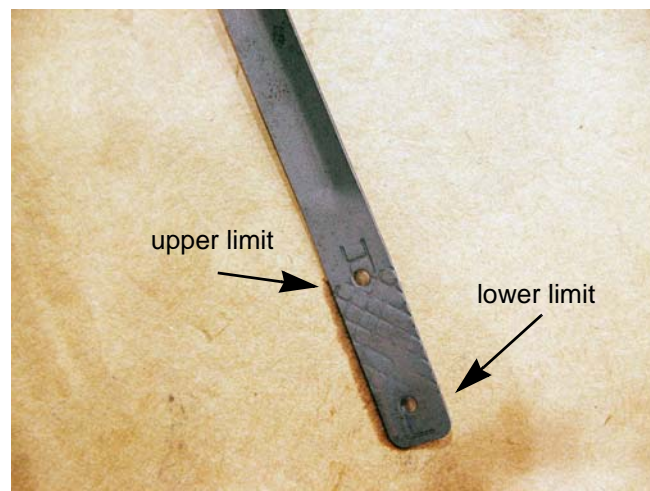

Figure 5.2
3. Pull the dip stick out again and read the oil level. See Figure 5.2.